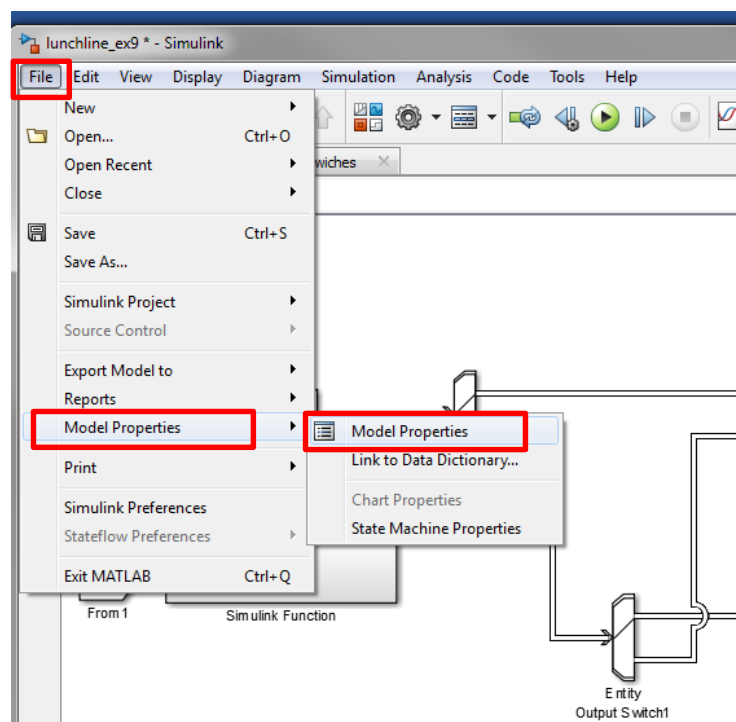

Figure 37: Model Properties
3. Open the model properties dialog from the model window as shown in Figure 37 (by selecting **File->Model Properties -> Model Properties**).